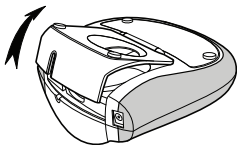

Figure 3
1. Lift the label cassette cover to open the label compartment. See Figure 3.